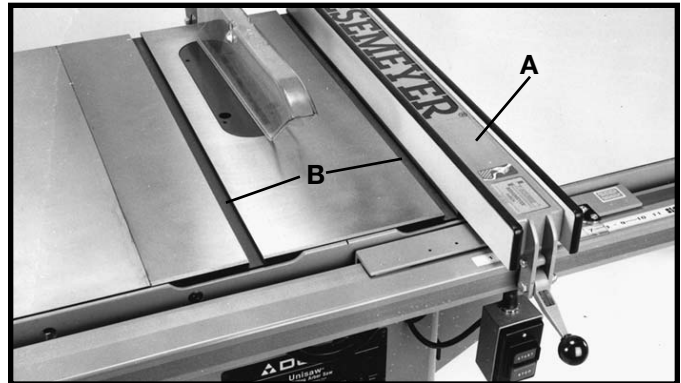
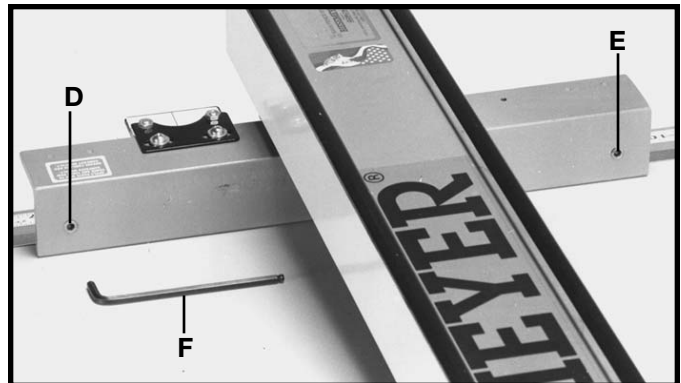
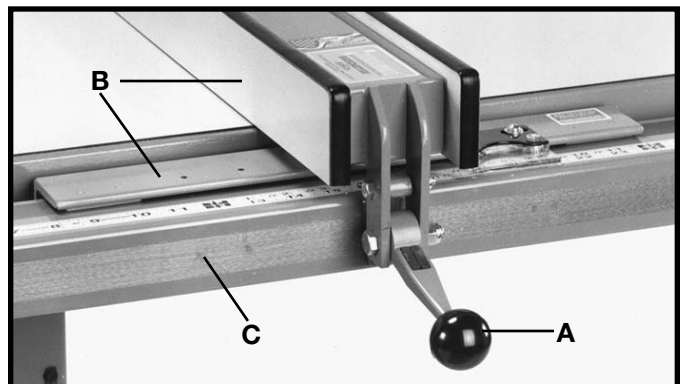

Fig. 103
Fig. 104
Fig. 105
NOTE: Delta table saws have been aligned at the factory so that the miter gage slots in the table are parallel with the saw blade. It is recommended, however, to check and make certain this alignment is correct before adjusting the fence parallel to the miter gage slot as follows: The fence (A) Fig. 103, must be adjusted so it is parallel to the miter gage slots (B). To check and adjust, move fence (A) until the bottom edge of the fence is in line with the edge of one of the miter gage slots as shown, and push down on the fence clamping lever (C). Check to see if the fence (A) is parallel to the miter gage slot, the entire length of the table. If an adjustment must be made, lift up fence locking lever (C) and raise fence up off the guide tube, as shown in Fig. 104. Slightly tighten one of the two adjusting screws (D) or (E) Fig. 104, using a 3/16" allen wrench (F), not supplied. Replace the fence on the guide tube and check again to see if the edge of the fence is parallel with the miter gage slot the entire length of the slot. Repeat this adjustment until you are sure the fence is parallel with the miter gage slot.
When the fence locking handle (A) is pushed to the down position, as shown in Fig. 105, the fence assembly (B) should be completely clamped to the guide tube (C). If the fence assembly (B) is not completely clamped to the guide tube (C) when the handle (A) is pushed down, as shown in Fig. 105, lift up handle (A) and raise fence assembly (B) up off the guide tube (C). Slightly tighten the two adjusting screws (D) and (E) Fig. 104, using the 3/16" allen wrench (F) not supplied. Adjusting screws (D) and (E) Fig. 104, should be tightened an equal amount. Replace fence onto the guide tube and recheck to see if the fence assembly (B) Fig. 105, is completely tightened to the guide tube (C) with the locking handle (A) pushed down. Adjust further if necessary.